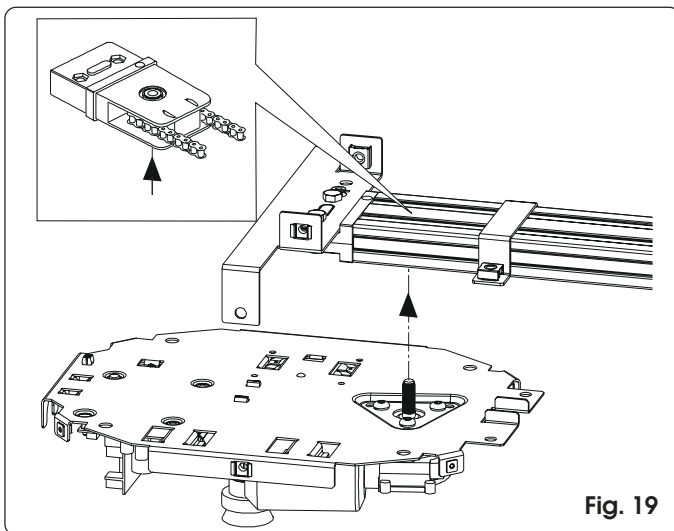

Fig. 19
- 3) Insert the gear motor shaft in the coupling located in the sliding guide rear connection (fig. 19).